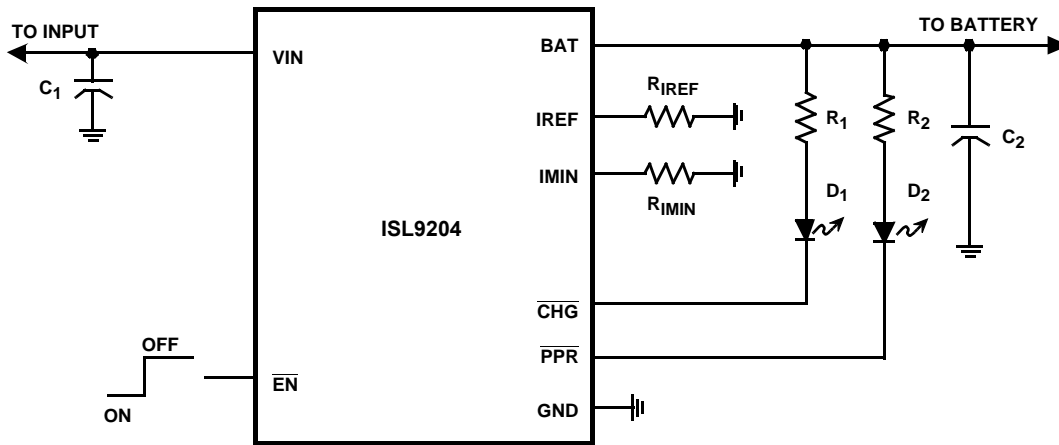
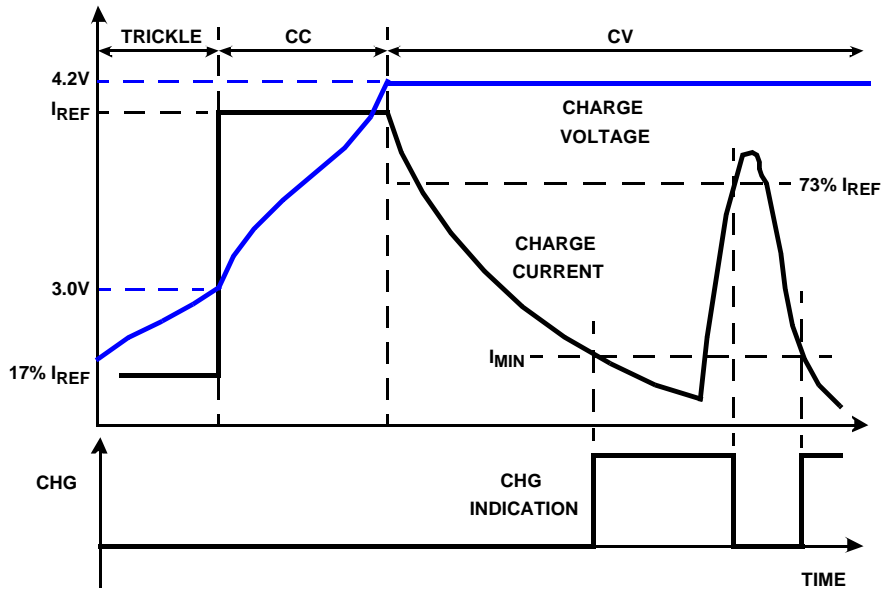

FIGURE 9. TYPICAL APPLICATION CIRCUIT INTERFACING TO INDICATION LEDs
FIGURE 12. TYPICAL CHARGE PROFILE
TABLE 1. COMPONENT DESCRIPTION FOR FIGURE 9
The ISL9204 charges a Li-ion battery with a constant current (CC) or a constant voltage (CV). The constant current I_{REF} is set with the external resistor R_{IREF} (see Figure 9) and the constant voltage is fixed at 4.2V. If the battery voltage is below a typical 2.8V trickle-charge threshold, the ISL9204 charges the battery with a trickle current until the battery voltage rises above the trickle charge threshold. When the battery voltage reaches 4.2V, the charger enters a CV mode and regulates the battery voltage at 4.2V to fully charge the battery without the risk of over charge. Upon reaching an end-of-charge (EOC) current, the charger indicates the charge completion with the CHG pin, but the charger continues to output the 4.2V voltage. Figure 12 shows the typical charge profile and the EOC/reset event.
The EOC current level I_{MIN} is programmable with the external resistor R_{IMIN} (see Figure 9). The CHG signal turns to LOW when the trickle charge starts and rises to HIGH at the EOC. After the EOC is reached, the charge current has to rise to typically 73% I_{REF} for the CHG signal to turn on again, as shown in Figure 12. The current surge after EOC can be caused by a load connected to the battery.
The PPR pin can be used to drive an LED (see Figure 9) or to interface with a microprocessor.